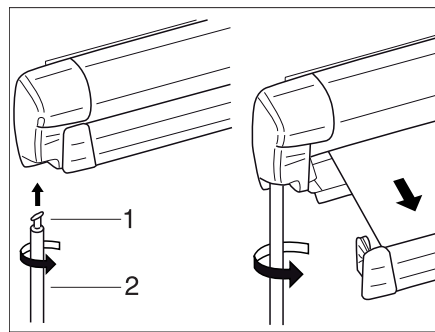

Fig. 36 Awning
- Insert the hook (Fig. 36,1) of the crank rod (Fig. 36,2) into the lug and turn by 90°.